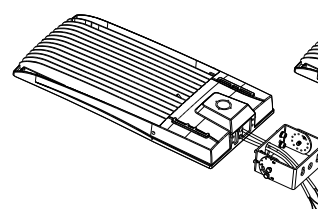

Figure 7
Step 1: Put the input wire of the light across the bracket. (Figure 7)